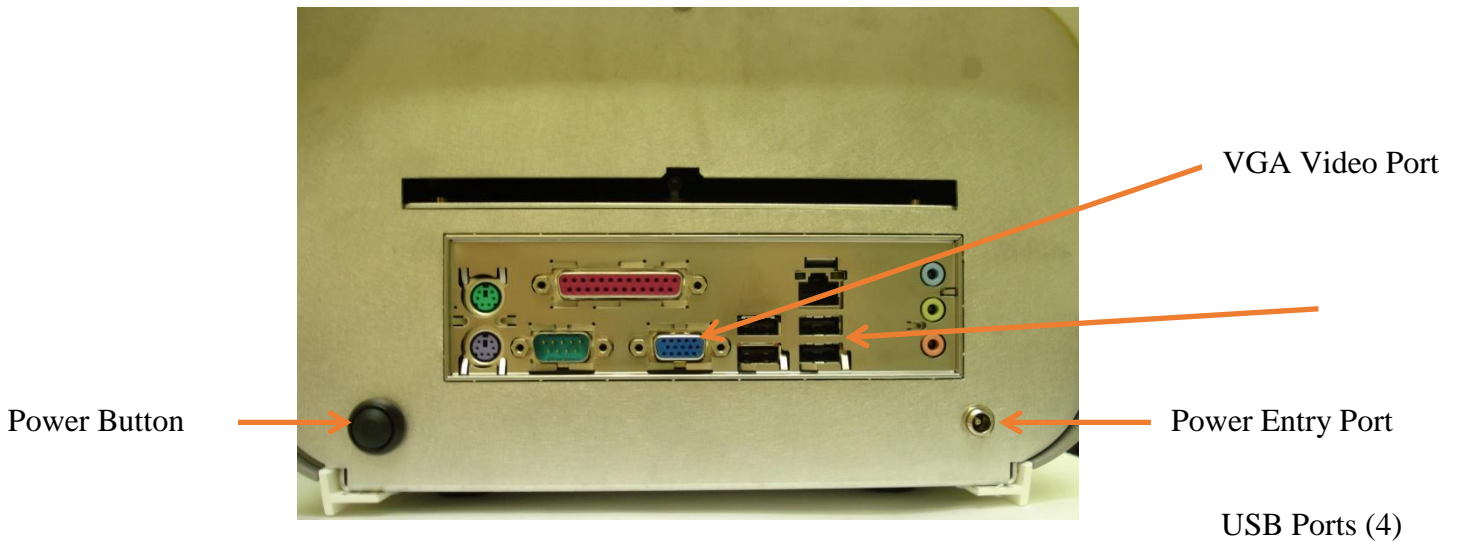

Figure 3.1 Rear Panel of the Pippin Prep
5. Connect the LCD monitor (VGA port, under the screen) to the Pippin Prep (VGA port, back panel, see Figure 3.1) using supplied video cable.
8. Insert the USB connector from the computer **keyboard** into any USB port located on the back panel of the Pippin Prep (Figure 3.1).
9. Insert the USB connector from the computer **mouse** into any USB port located on the back panel of the Pippin Prep (Figure 3.1).
10. Connect Pippin Prep instrument to the power outlet using the Pippin Prep power supply and power cable. The power input connector is in the lower right hand corner on the back panel of the Pippin Prep (Figure 3.1).
12. Press the power button. It is located on the left side of the back panel (Figure 3.1).